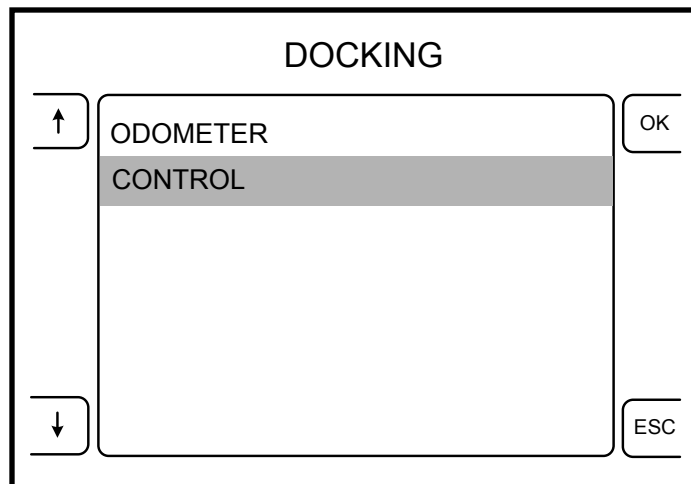

Figure 5: Select the DOCKING Option
- e. Next, push the button next to the arrow icon (on the left side) to highlight the CONTROL option. Then press the button next to the OK icon to select the docking menu. (see figure 5)